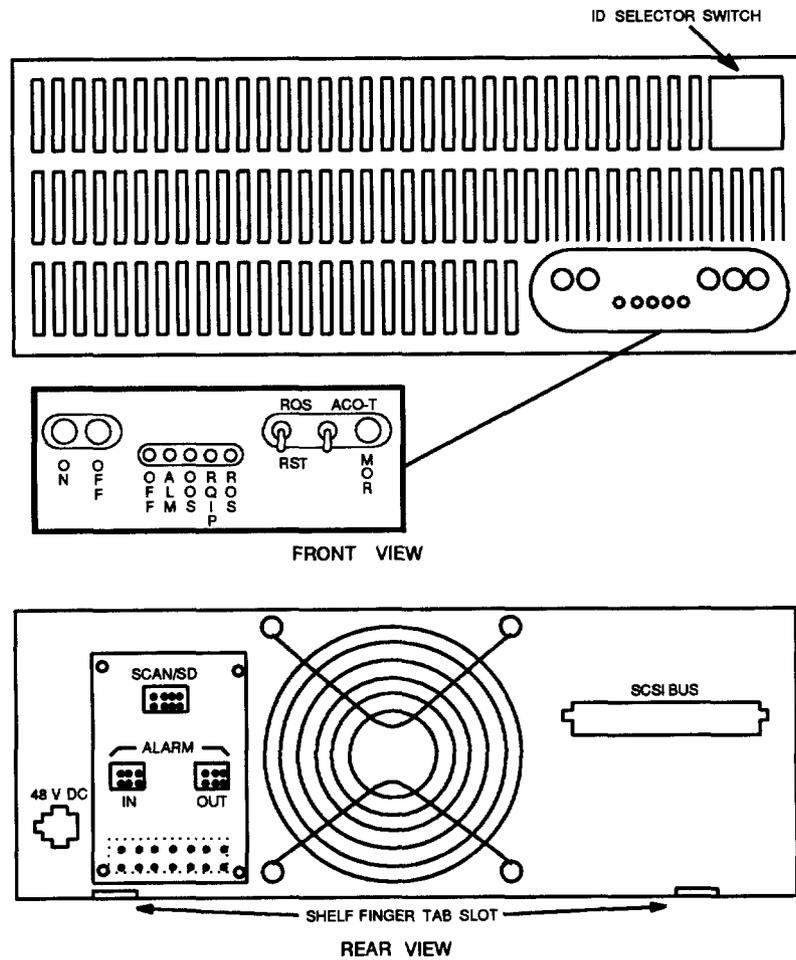
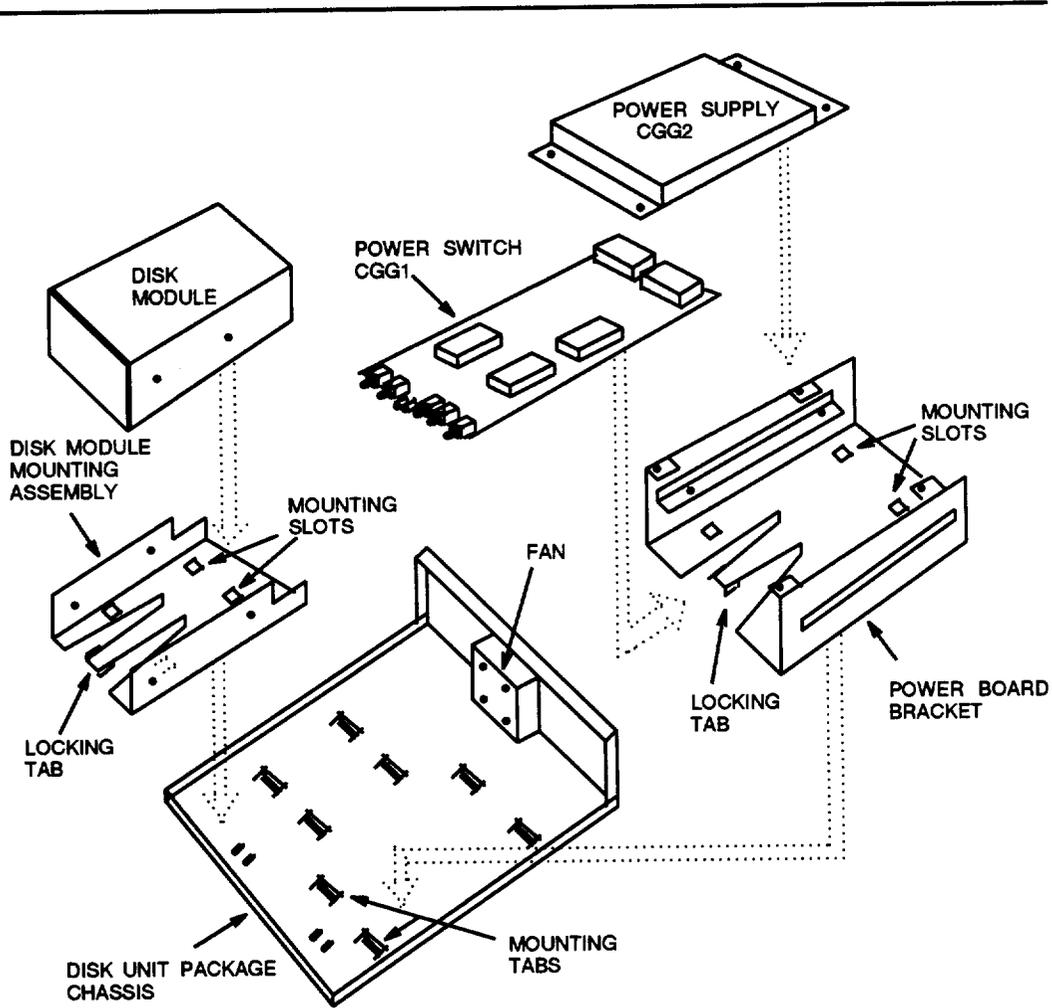

Figure 1. Disk Unit Package — Front and Rear Views
Figure 2. Disk Unit Package — Exploded View
- (a) Identify mounting tabs and slots correctly in Figure 2.
- 2.01** The SCSI DUP (Figure 1) consists essentially of a sheet metal box 11 inches (27.9 cm) wide, 12 inches (30.4 cm) long, and 3.5 inches (9.8 cm) high, with a removable cover that encloses:
2.04 Disk unit package components (less the top cover) are arranged as shown in Figure 2. The disk module is mounted with four screws in a mounting assembly that allows for air circulation under the disk module. Likewise, the power supply and power switch are mounted, each with four screws, in a power board bracket assembly to allow for air circulation. Both the disk module mounting assembly and the power board bracket assembly are fastened to the chassis via mounting slots that fit into mounting tabs in the chassis. Each is secured by a locking slot. The fan draws air through tabs on the front panel (Figure 1) and exhausts through a fan guard at the rear.
2.08 The power switch controls disk module power, monitors power alarms and the fan alarm, communicates with the system via the scanner and signal distributor points, provides inputs to the alarm grid, and provides craft interface via controls and indicators. Dimensions of the power switch are: height 0.62 inches (1.58 cm), width 4.0 inches (10.1 cm), length 8.8 inches (22.5 cm), and weight 0.5 pounds (0.23 kg). The controls and indicators are available through cutouts in the front cover of the disk unit package (Figure 1) and are described as follows: